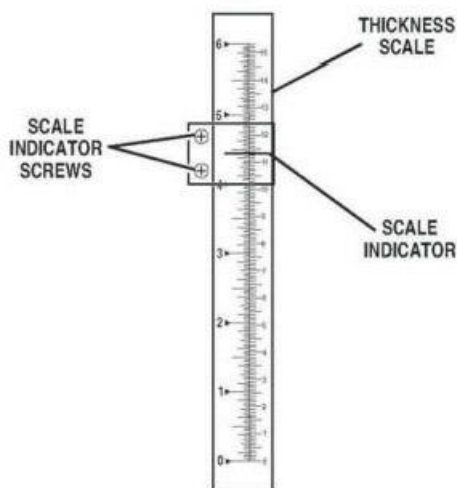

Fig. 5
The thickness scale, located on the right of the planer, shows the thickness of the finished workpiece. To make sure the scale is set properly, run a piece of wood through the planer and measure the thickness of the wood. If the scale is out of alignment, loosen the two round head screws (A) holding the scale indicator (B) and adjust the thickness indicator to the correct setting. Make sure to re-tighten the two screws once the adjustment is complete. SEE FIG 5.